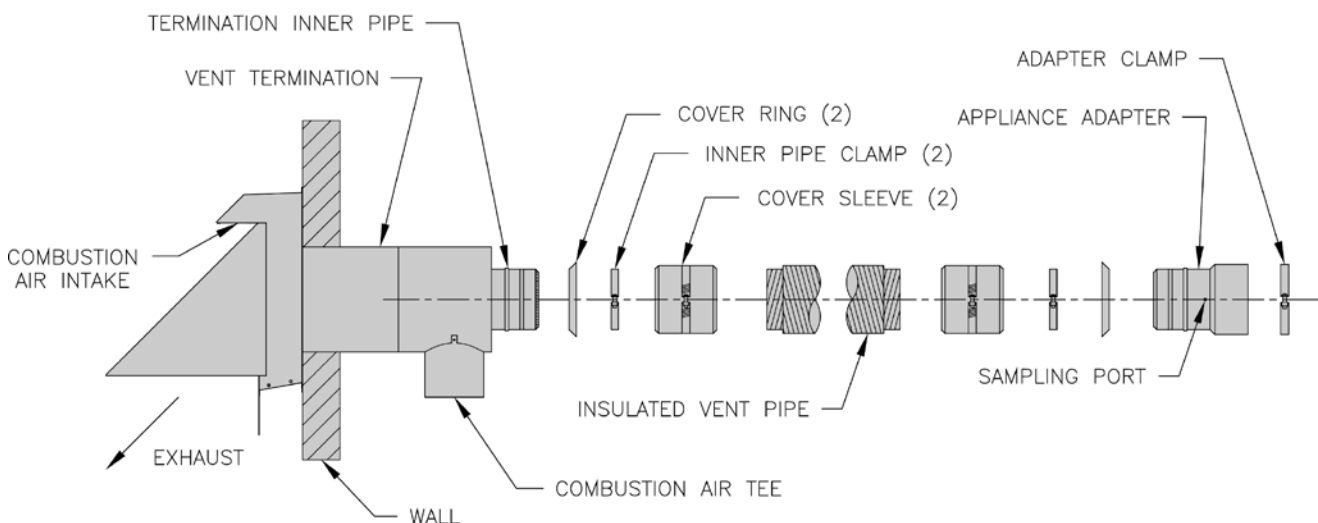

Figure 20: FDVS Component Breakdown
3. After completing assembly of the flexible double wall insulated vent pipe to the vent termination inner pipe (see Figure 20 and the following Steps), apply the supplied high temperature sealant to seal around the inner pipe protrusion thru the vent tee collar and the vent tee body, and, seal or tape the joint between the vent termination outer pipe and the vent tee body.